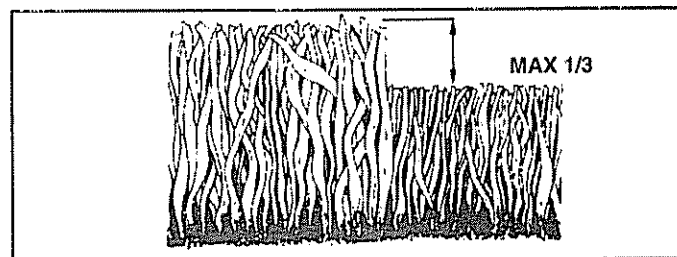

FIG. 11B
- For best results, adjust the mower cutting height so that the mower cuts off only the top one-third of the grass blades (See Fig. 11B). For extremely heavy mulching, reduce your width of cut on each pass and mow slowly.